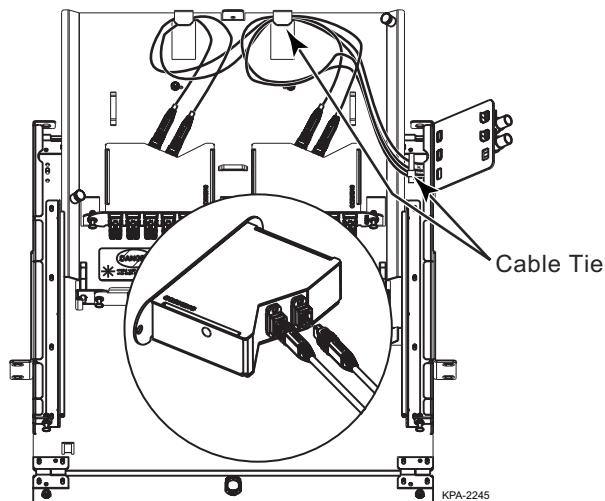

Figure 10 — Install Plug & Play Modules
- Step 4:** Install MTP connectors into the MTP adapters at the rear of the connector modules (Figure 10). Route fiber as shown and loosely secure with cable ties.